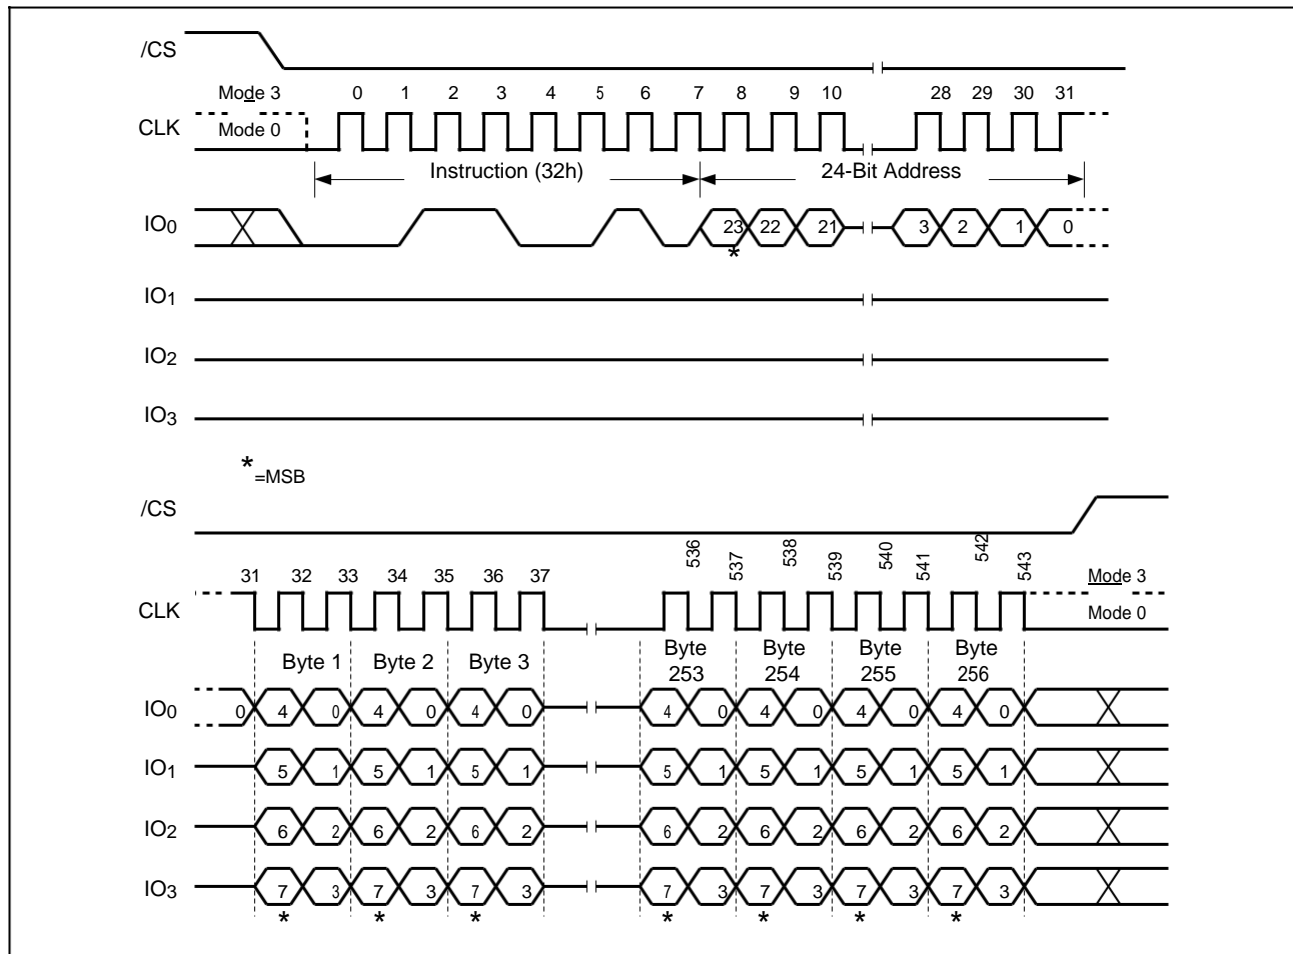

Figure 31. Quad Input Page Program Instruction (SPI Mode only)
To use Quad Page Program the Quad Enable (QE) bit in Status Register-2 must be set to 1. A Write Enable instruction must be executed before the device will accept the Quad Page Program instruction (Status Register-1, WEL=1). The instruction is initiated by driving the /CS pin low then shifting the instruction code "32h" followed by a 24/32-bit address (A23/A31-A0) and at least one data byte, into the IO pins. The /CS pin must be held low for the entire length of the instruction while data is being sent to the device. All other functions of Quad Page Program are identical to standard Page Program. The Quad Page Program instruction sequence is shown in Figure 31.